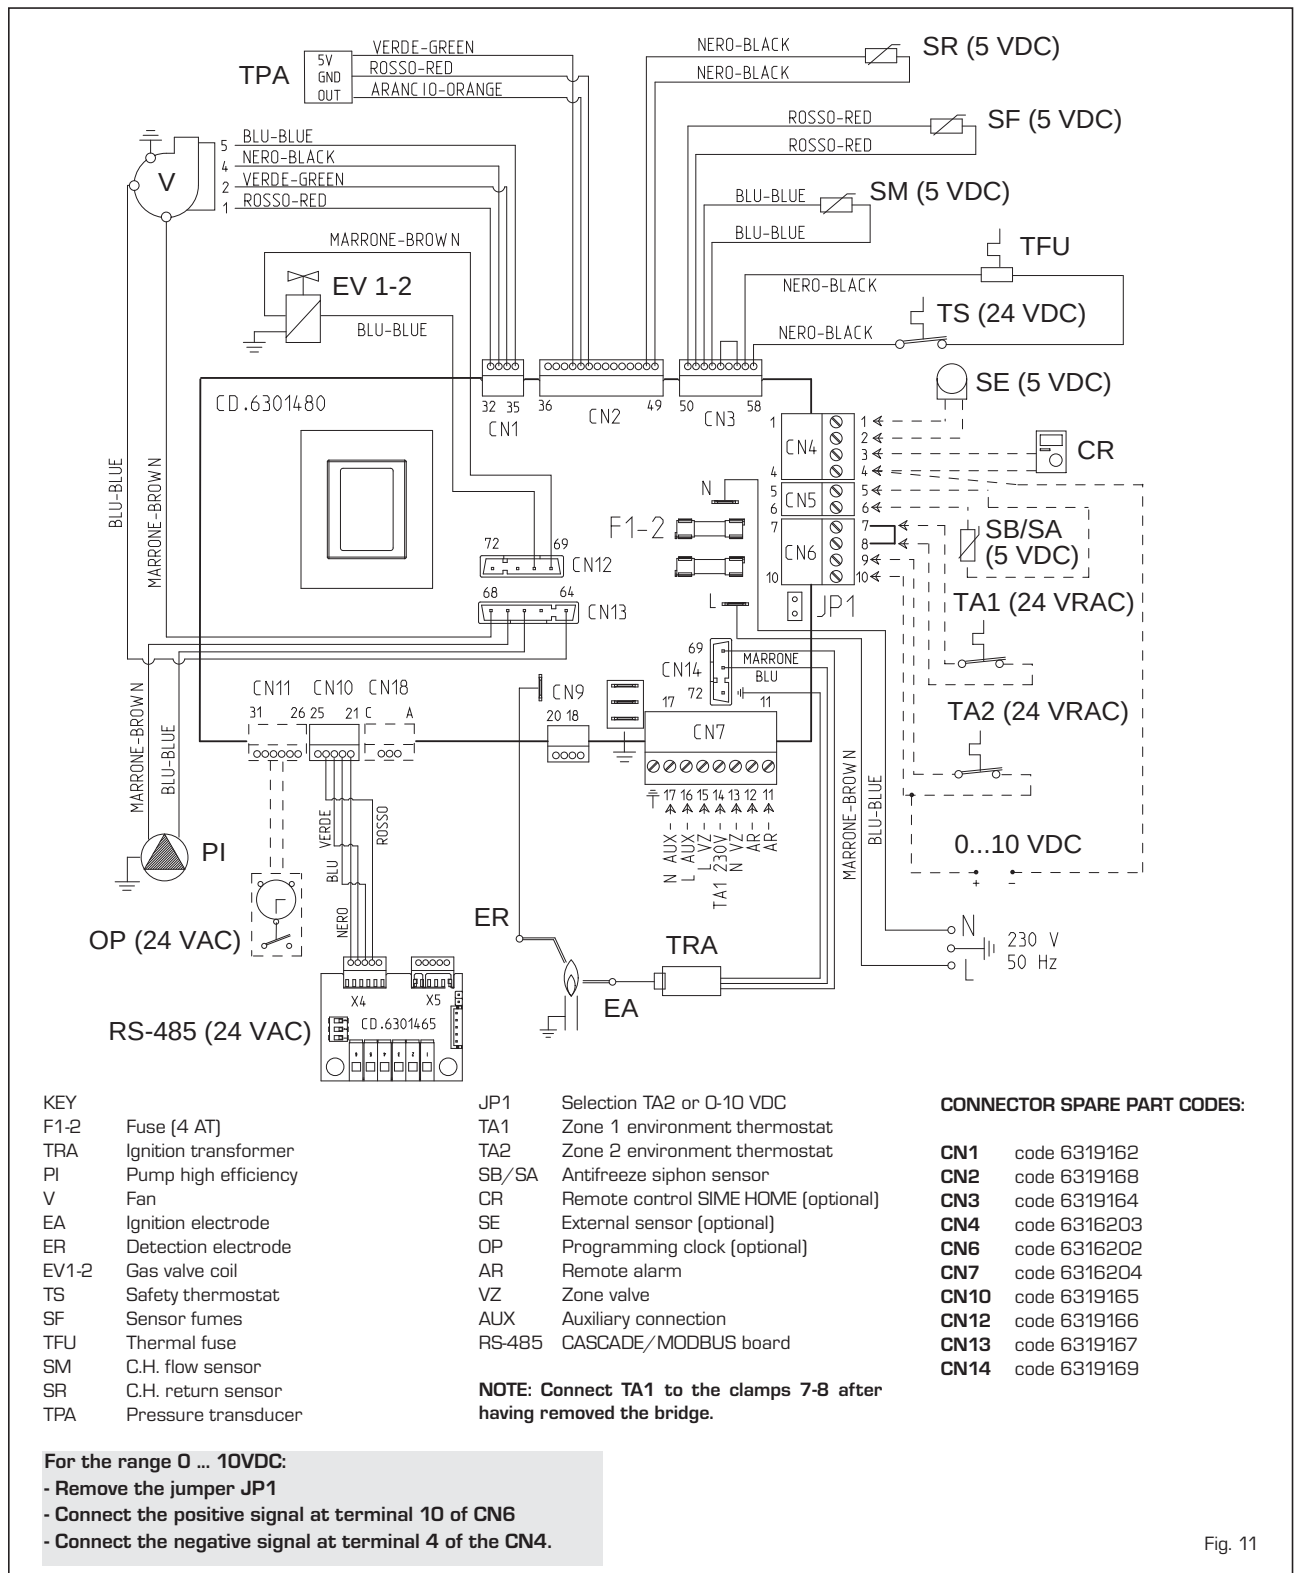

Fig. 11
2.11.1 Wiring diagram single generator (fig. 11)
2.11.2 Electrical connection of modules in sequence/cascade [fig. 11/a]